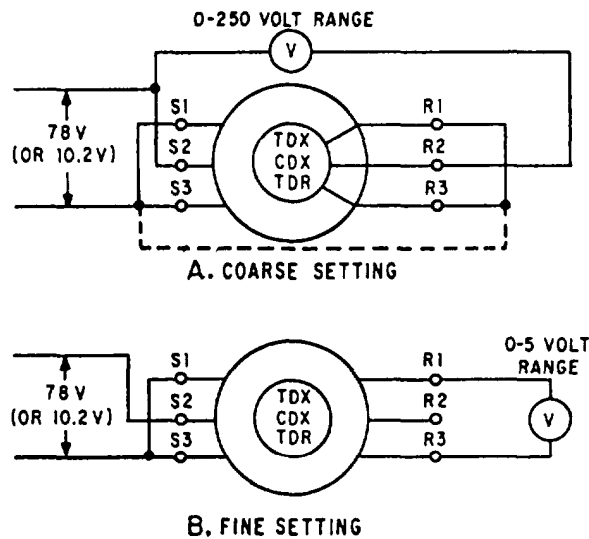

Figure 2-8.—Zeroing differential synchros by the voltmeter method.
2. De-energize the circuit and disconnect all other connections from the differential leads. Set the voltmeter on its 0- to 250-volt scale and connect as shown in figure 2-8, view A. If a 78-volt supply is not available, you may use 115 volts. If you use 115 volts instead of 78 volts, do not leave the unit connected for more than 2 minutes or it may overheat and may cause permanent damage.
3. Energize the circuit, unclamp the differential's stator, and turn it until the meter reads minimum. The differential is now approximately on electrical zero. De-energize the circuit and reconnect it as shown in figure 2-8, view B.
**ZEROING A CONTROL TRANSFORMER (VOLTMETER METHOD).**— Two conditions must exist for a control transformer (CT) to be on electrical zero. First, its rotor voltage must be minimum when electrical zero voltages are applied to its stator. Second, turning the shaft of the CT slightly counterclockwise produces a voltage across its rotor in phase with the rotor voltage of the CX or TX, supplying excitation to its stator. Electrical zero voltages, for the stator only, are the same as for transmitters and receivers.